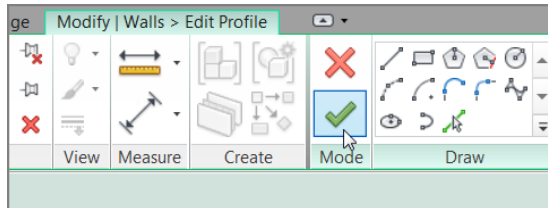
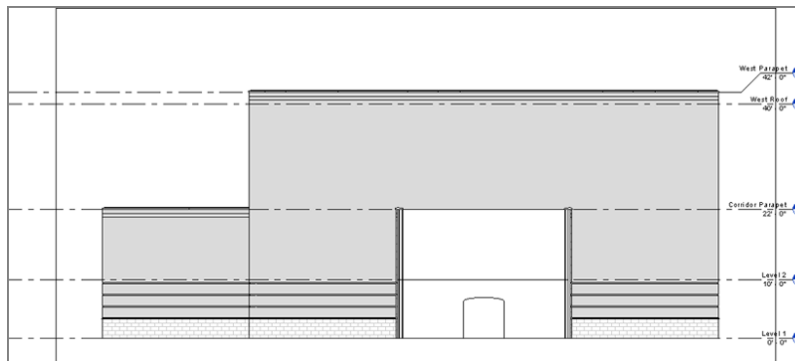

FIGURE 3.49: Clicking Finish Edit Mode
FIGURE 3.50: The finished wall profile
14. On the Wall panel of the Modify | Walls > Edit Profile tab, click Finish Edit Mode, as shown in Figure 3.49. Your finished wall profile should look like Figure 3.50.
1. Select the internal (white) wall with the arched opening, as shown previously in Figure 3.50.